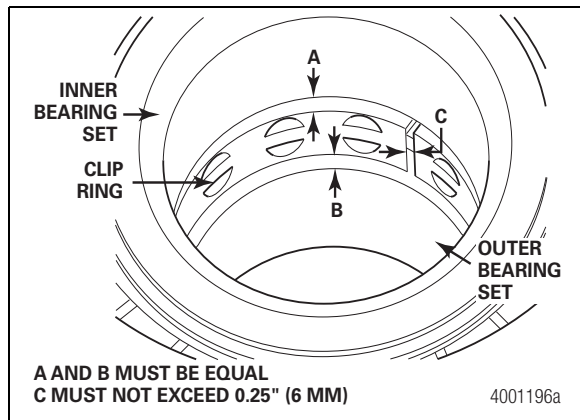

Figure 4.16
- A. The inner clip ring has not become dislodged in shipment and is in correct alignment with the inner and outer bearings. The gap between the inner and outer bearing sets and the clip ring must be equal. Figure 4.16.
- B. The gap between the ends of the clip ring must be equal and not exceed 0.25-inch (6 mm). If necessary, adjust by hand. Figure 4.16.